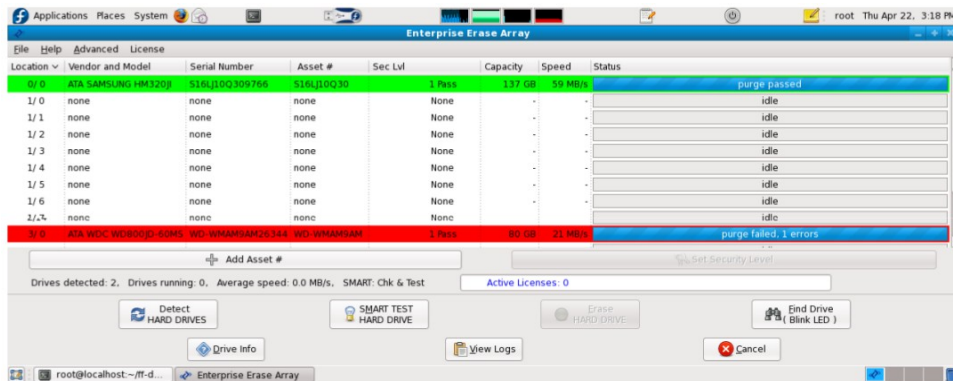

Figure 3.7 – Successful Completion of Erasure Process (Green Bar)
3.9 Once the erasure process is complete, the completed drive will be highlighted in green indicating a successful erasure. Figure 3.7 below shows the successful completion of an erase: